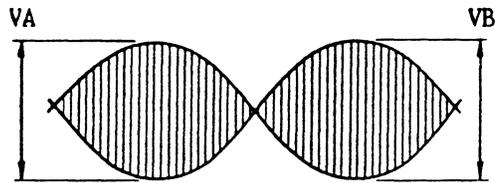

Fig. 416 Lobe Pattern for Alignment Inspection
- (2) Start the spindle motor and load the disk.
- (3) Shift the head to the head alignment track (track 32).
- (4) Check if two lobe patterns (VA, VB levels need not coincide) as shown in Fig.416 can be monitored and measured.
as close as possible to that in Fig.416.
- (c) Insert the alignment disk. It is assumed, however, that track alignment was correctly performed in item 4-4-10.
- (d) Shift the head to a track where a lobe pattern like that shown in Fig.416 can be observed.